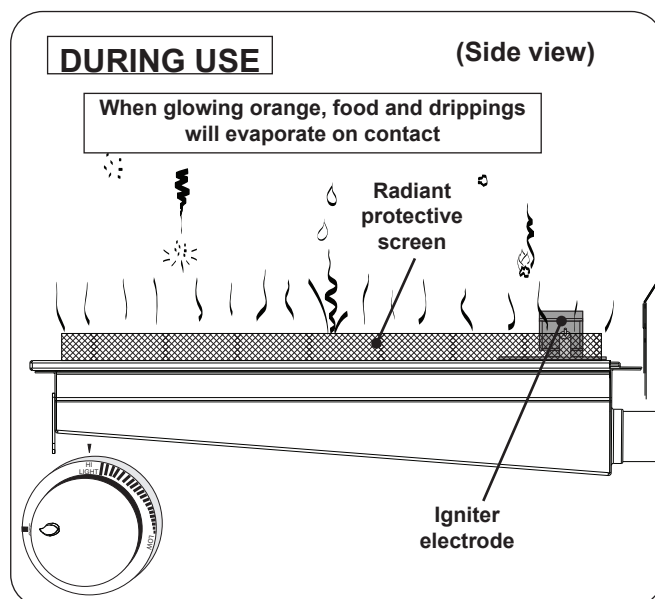

Fig. 27-3 Infrared burner - DURING USE
- **DO NOT place food on the cooking grid until the infrared burner glows orange (Fig. 27-3).** Drippings are heated and evaporate instead of sticking to and impairing burner function.